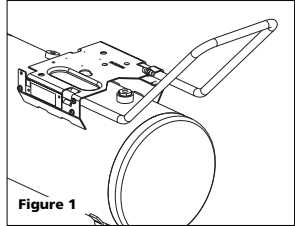

Figure 1
2. Insert handle through shroud and into baseplate as shown in Figure 1. Handle must fit into special openings in baseplate.